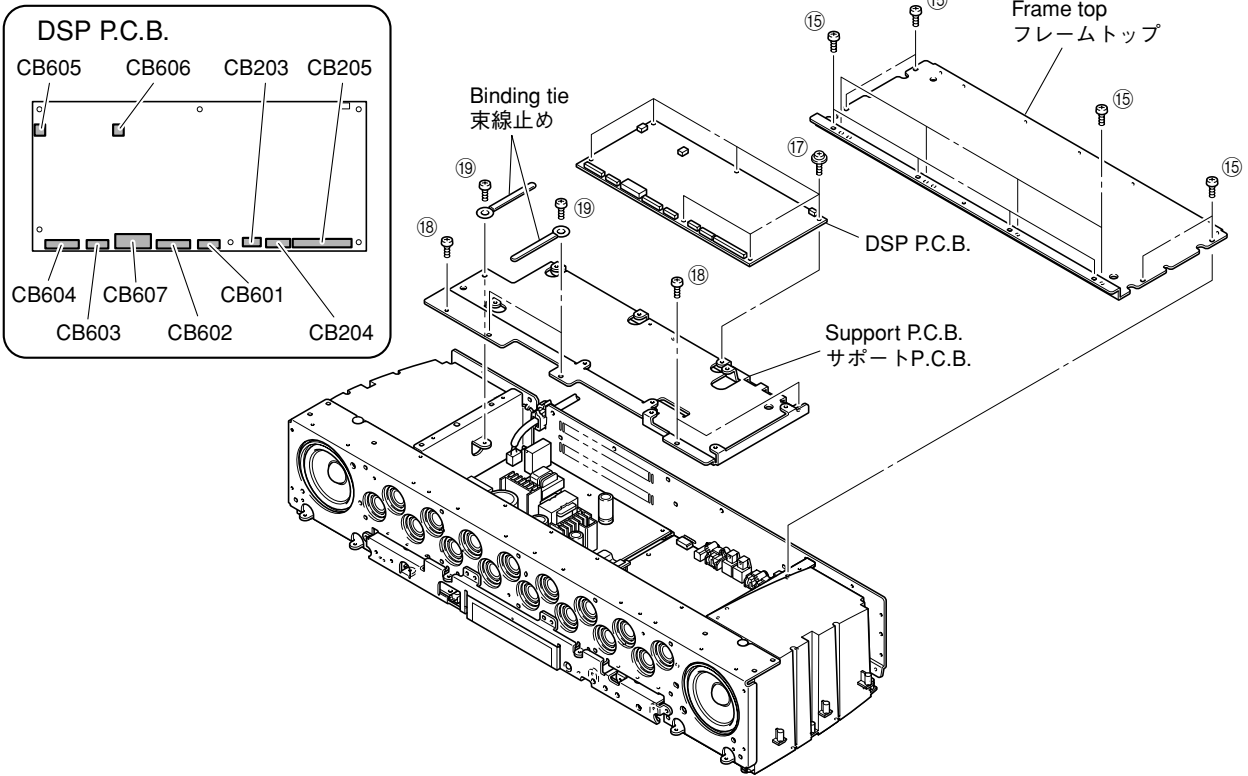

Fig. 4
- a. Remove 12 screws (15). (Fig. 4)
- c. Remove the frame top. (Fig. 4)
- d. Remove 6 screws (17). (Fig. 4)
- e. Remove CB203-205 and CB601-607. (Fig. 4)
- f. Remove the DSP P.C.B.. (Fig. 4)
- a. ⑮のネジ12本を外します。(Fig. 4)
- c. フレームトップを取り外します。(Fig. 4)
- d. ⑰のネジ6本を外します。(Fig. 4)
- e. CB203-205、CB601-607を外します。(Fig. 4)
- f. DSP P.C.B.を取り外します。(Fig. 4)
6. Removal of INPUT (1) and (2) P.C.B.s
* When replacing INPUT (1) and INPUT (2) P.C.B.s, be sure to replace them at the same time. Installing either P.C.B. of different version from the other may cause failure of operation.
- a. Remove 3 screws (18). (Fig. 4)
- b. Remove 3 screws (19) and then remove the binding tie. (Fig. 4)
- d. Remove the support P.C.B.. (Fig. 4)
- a. 18のネジ3本を外します。(Fig. 4)
- b. 19のネジ3本を外し、束線止めを外します。(Fig. 4)
- d. サポートP.C.B.を取り外します。(Fig. 4)